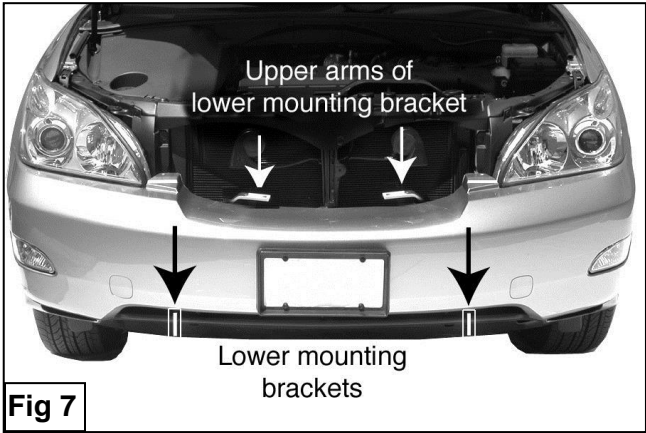

Fig 7
8. Place Styrofoam panel over bumper channel (Look for arrow on panel at center for top). Reinstall front bumper skin so that it snaps into position. Attach electrical lines for fog lights and water line headlight washers, if equipped, at this time. Also, fasten all rivet pins and bolts detailed in steps 2 and 3 to secure bumper skin (**Figure 7**).